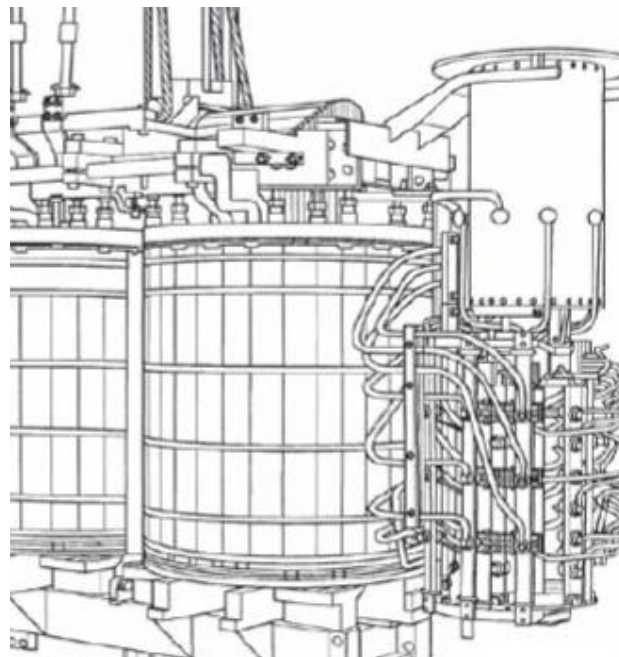

Figure 20
4.2 Installation of on-load tap-changer on bell-type transformer (Fig. 20)